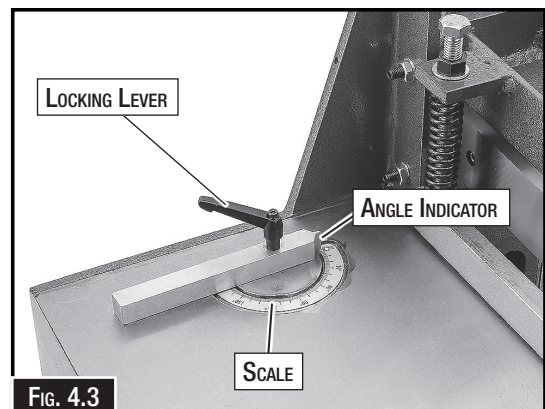

Fig. 4.3
2. Loosen the locking lever on the angle cutting guide, and use the scale to set the angle to match the required cut, then tighten the locking lever. (Fig. 4.3)